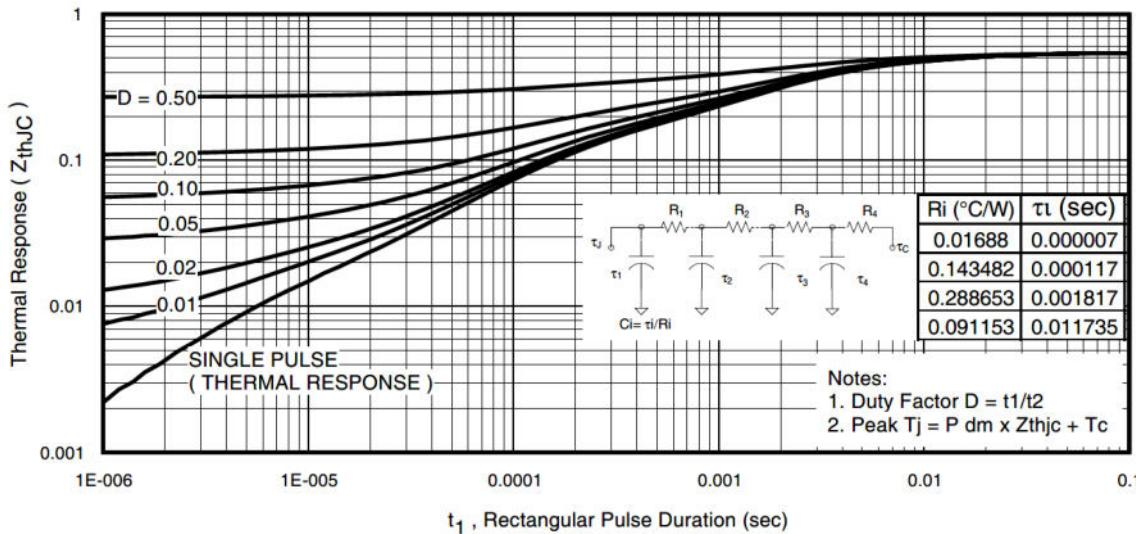

Fig 13. Maximum Effective Transient Thermal Impedance, Junction-to-Case
- $Z_{thJC}(D, t_{av})$  = Transient thermal resistance, see Figures 13)